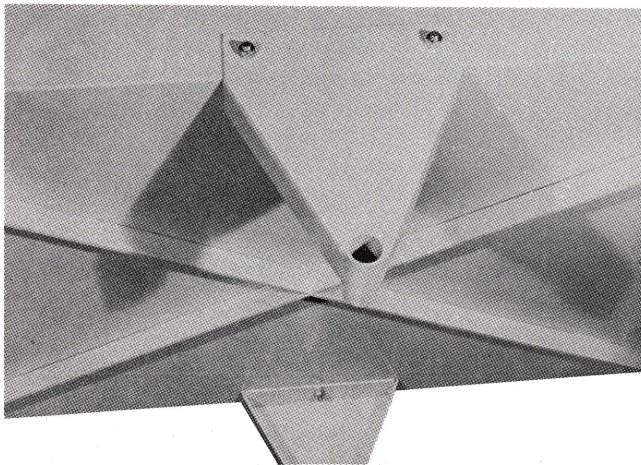

Figure 2
2. Stand body on side or end. Attach axle supports to body using $3/8 - 16 \times 3/4$ inch screws and nuts. Do not tighten securely at this time (Figure 2).